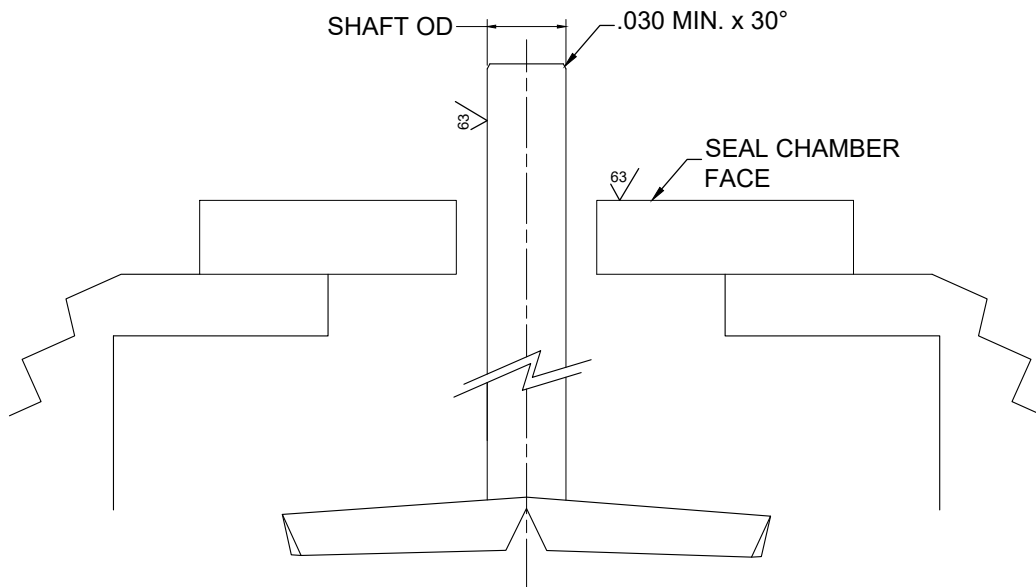

Figure 1: Surface finish and chamfer locations.
5. Sealing surfaces and the shaft or shaft sleeve must have at least a 63 Ra- μ in surface finish as seen in Figure 1.
6. For ease of installation, the leading edge of the shaft or sleeve should be chamfered as shown in Figure 1 and all parts should be deburred.